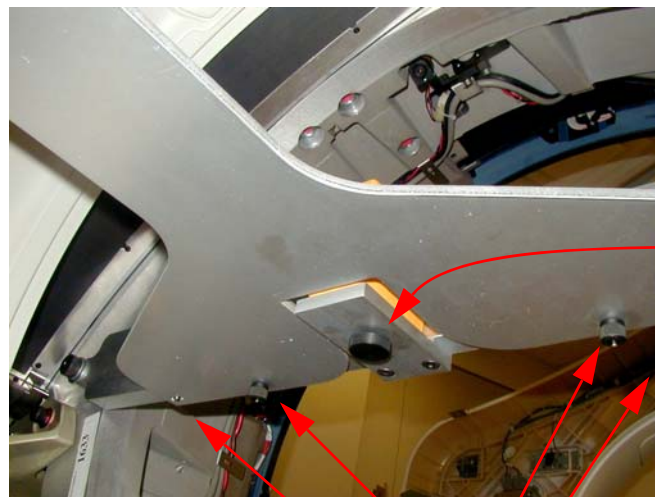

Figure 1-23 Attach Laser Center Plate
- 7.) Attach the laser centering plate onto the laser mounting bar as shown in Figure 1-23. The plate is attached from under the alignment bar using two fixed locators and two thumb screws.